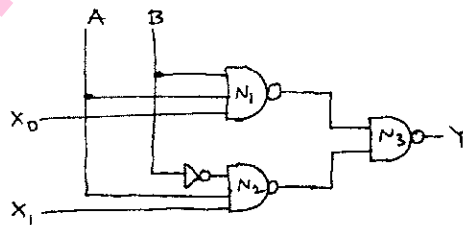

Fig. Q5 (c)
c. For the circuit shown in Fig. Q5 (c), obtain the expression for Y in terms of X_0 , X_1 , A and B inputs. (04 Marks)